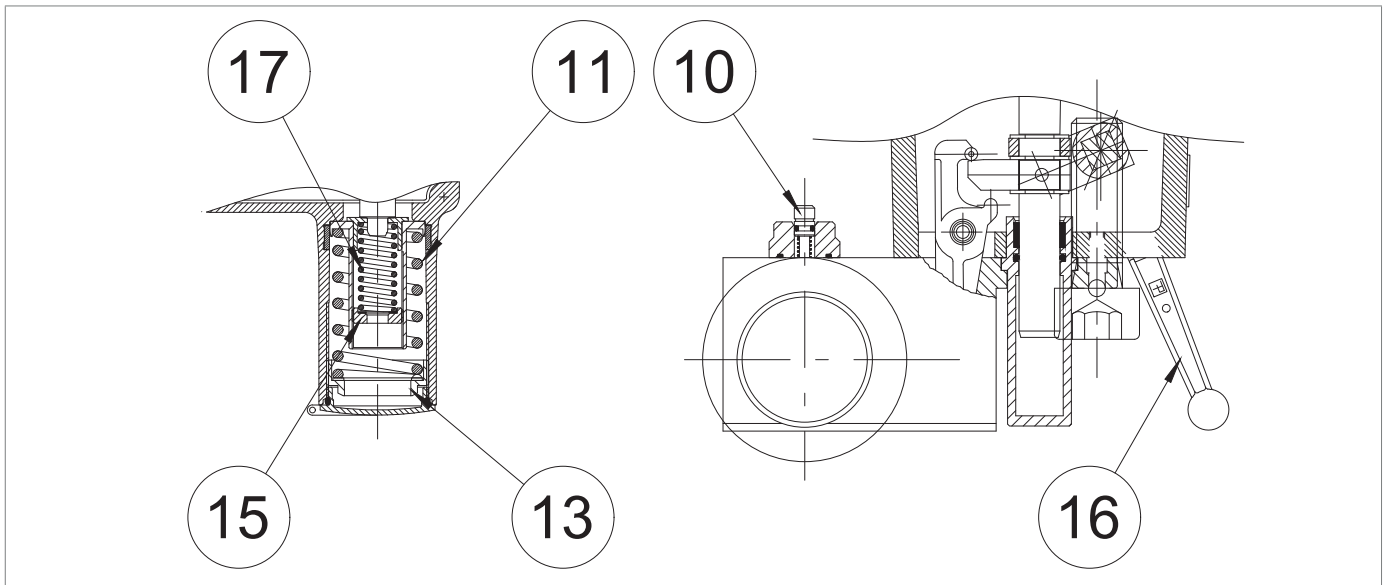

Fig. 8.38. Pressure switches models 102M/102MH - 105M/105MH
2	<p>Check that the slam-shut valve is in the shut-off position.</p> <p>! NOTICE! If the slam-shut valve is in the open position, close it using the manual button (Fig. 8.38, ref.10).</p>